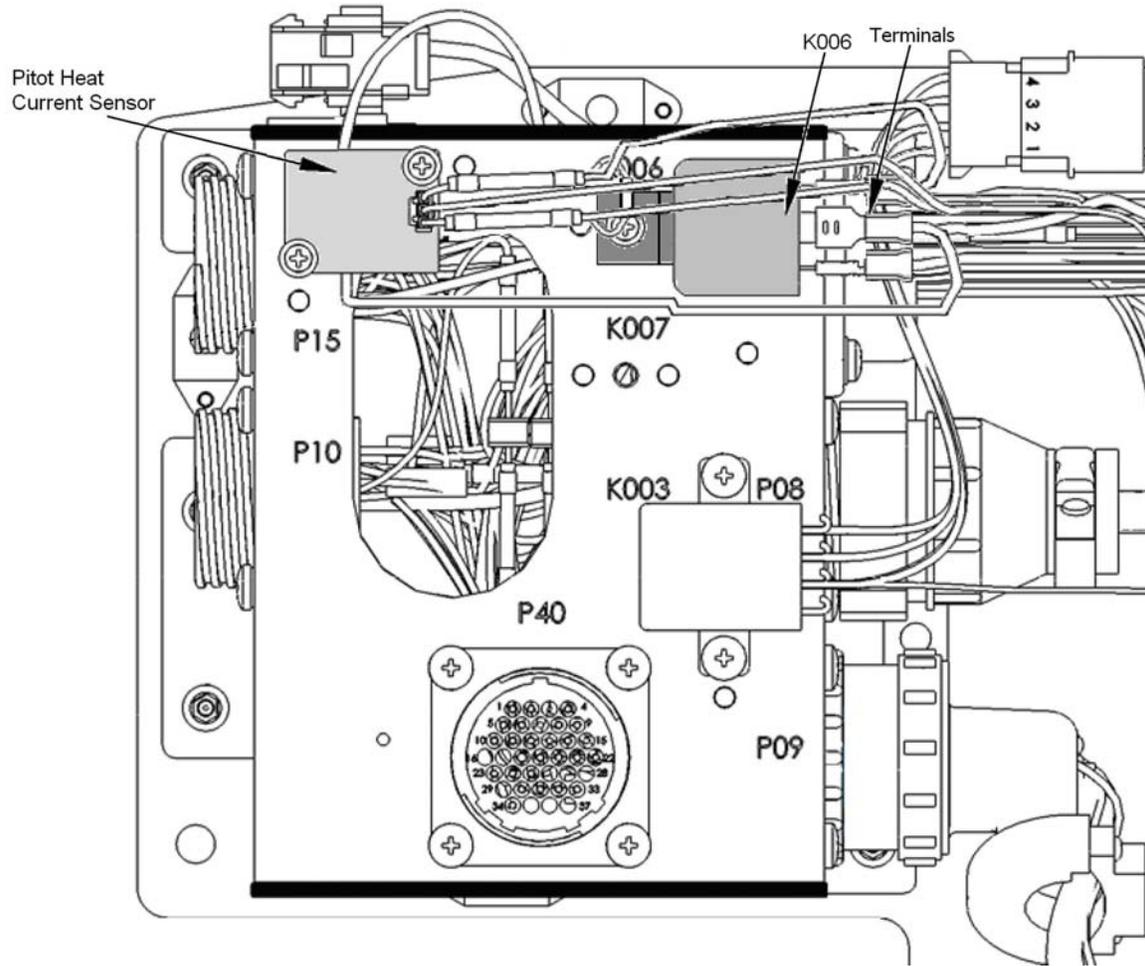

Figure 30-9 Location of the Pitot Heat Relay K006
9. Disconnect the wires connected to relay 006. See Figure 30-9.